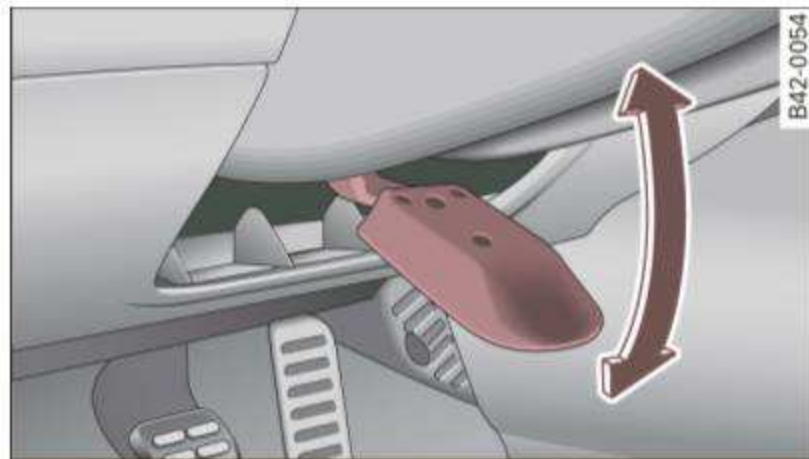

Fig. 64 Lever under the steering column
- Push the lever ⇒ fig. 64 down ⇒ ⚠.